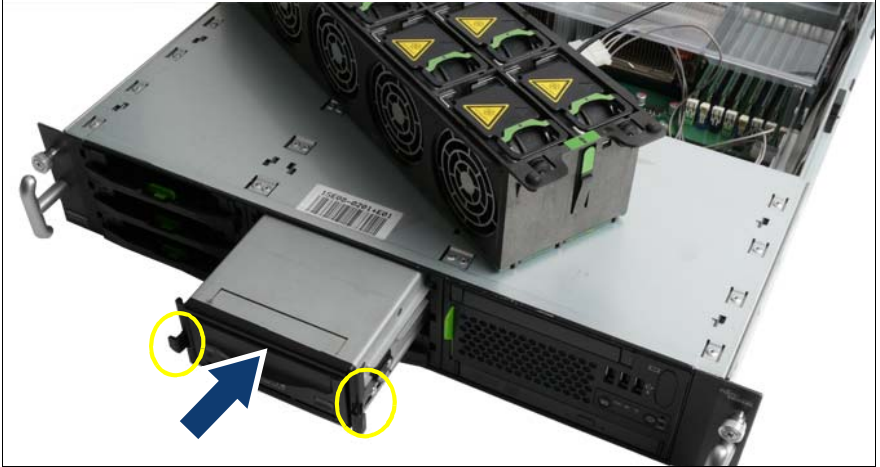

Figure 45: Installing a USB tape drive
- i** Make sure that the locking levers at both sides (see circles in figure 45) are engaged. Press the locking levers outward.